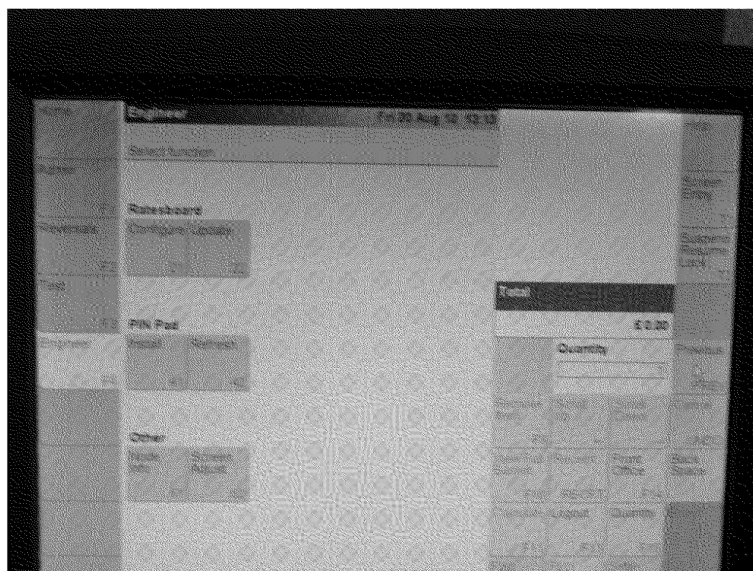
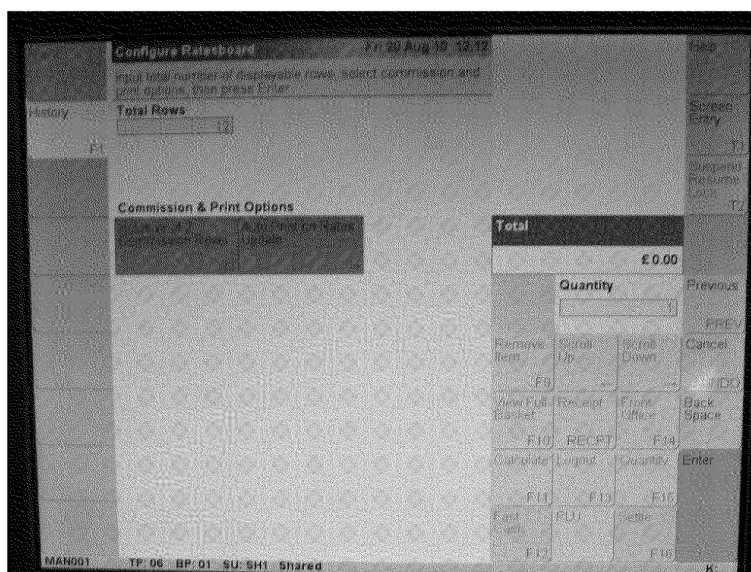
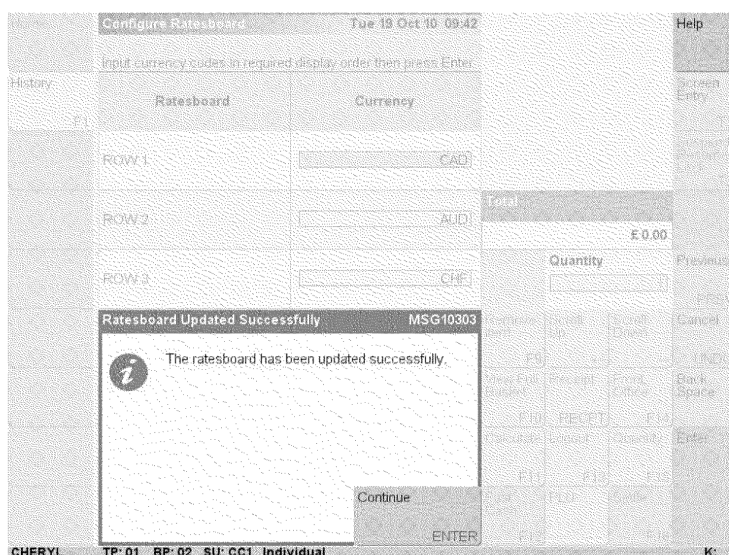

Figure 11
Figure 12
Figure 16
The Branch Manager should under Ratesboard touch the “Configure” icon or type 21 in order to start the process of reconfiguring the Rate Board confirming that the Rate Board is correctly configured. The Branch Manager will first be asked to input the number of rows on the Rate Board connected to the Counter Position (Figure 12)
- 2) The Branch Manager should enter the number of rows to correspond with the number of rows on the Rate Board attached to the Horizon Counter Position. If the displayed number of rows is incorrect, remove this entry using the ‘back space’ button on the keyboard or by touching the icon on the screen, then use the number pad to enter the correct number of rows. The Branch Manager will then be asked whether the last 2 rows should be reserved as commission lines (Figure 12).
- 3) The Branch Manager should decide whether the last two rows should be commission lines. If required he should touch the icon or type 32 on the keyboard. The Branch Manager will then be asked whether to Auto Print on Rates Update. (See Figure 12). If this icon is touched or keyboard 34 the A4 printer will print a new bureau rates report each time the rates are updated. When all the selections have been made press Enter on the screen or keyboard.
- 7) The Branch Manager should touch the 'Update' button keyboard 22 (See figure 12). The message "MSG10303 the ratesboard has been updated successfully" will appear (Figure 16). Press Print keyboard 84 to preview or print the new rates. Press Close to return back to the engineer screen (See figure 11 above).